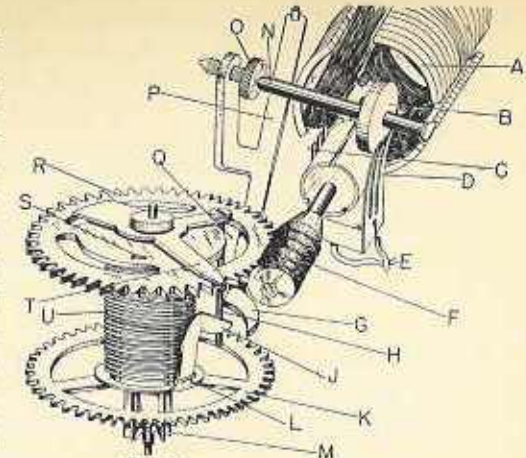

FIGURE 54
Figure 54 shows the principles of this system. The motor's rotor (A) has the worm drive (F) on its shaft, which is enmeshed with a nylon worm wheel (R). This plastic wheel is mounted loosely on the third wheel arbor. A helical wire mainspring (U) is fastened to the bottom of the third wheel at one end (L), and connected at the top of the nylon worm wheel (R) at S.
However, in the sequence shown in Figure 54 the locked position of the rod (N) is keeping brush D from making contact with the commutator—thus the motor is not working.